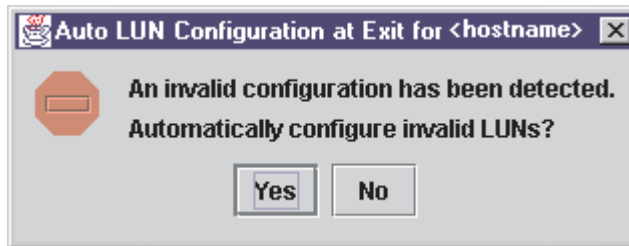

Figure 100. Auto LUN Configuration at Exit dialog window
4. Click **OK** to save the changes until you exit the Fibre Channel Port Configuration window; then, review the configuration changes (see Step 3). If FASTT MSJ detects an erroneous LUN configuration while saving the configuration, the Auto LUN Configuration at Exit for <hostname> window is displayed (see Figure 100 on page 224).